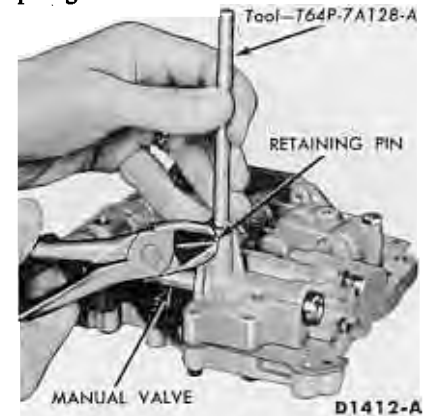

FIG. 65—Removing Manual Valve
3. Depress the manual valve detent spring with the tool shown in Fig. 65. Remove the spring retaining pin (roll pin) from the upper valve